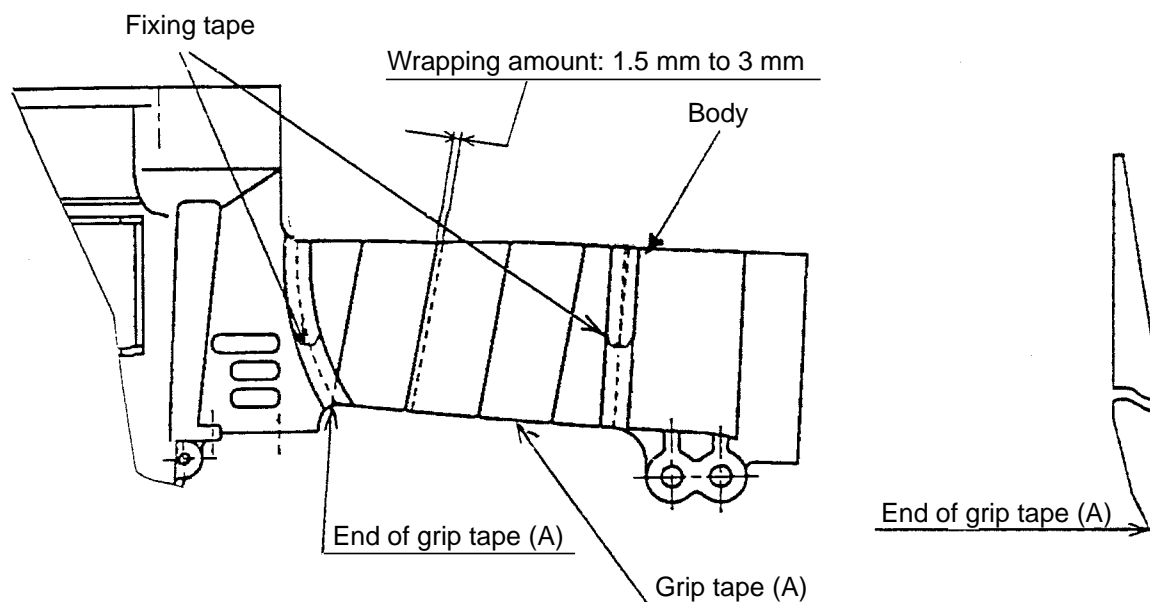

Fig. 20
- Grip tape (A): Code No. 881768
Grip tape (A) and the fixing tape are adhesive-backed. Start wrapping grip tape (A) near the roll pin hole of the body and wrap around body completely. After wrapping, fix grip tape (A) with the fixing tape at both ends of wrapping (Fig. 20). Note that grip tape (A) and fixing tape cannot be removed once they are adhered.